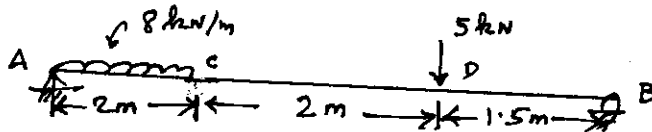

Fig 4
19. For the beam shown in figure 4 find the total strain energy stored. EI constant.